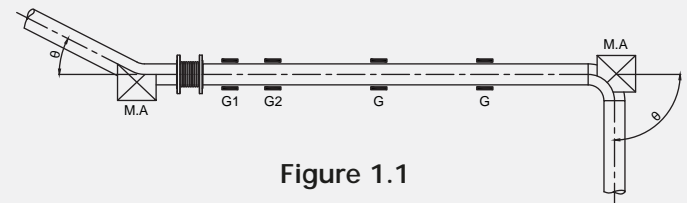
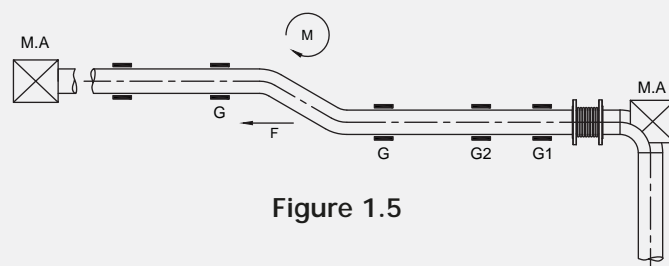
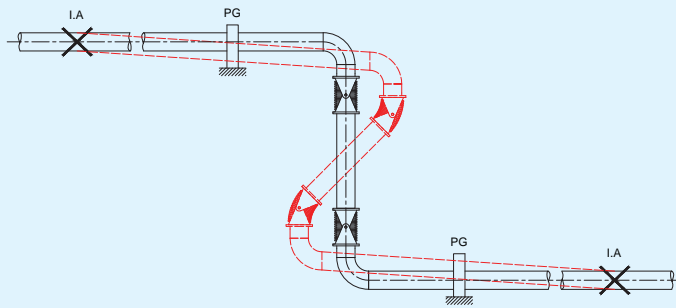

Figure 1.1
Figure 1.5
Figure 1.6
Figure 1.1 typifies good practise in the use of a single Expansion Joint to absorb axial pipe line expansion. Note the use of one Expansion Joint between two main anchors (M.A), the nearness of the Expansion Joint to an anchor, the closeness of the first alignment guide (G1), the spacing between the first alignment guide and the second alignment guide (G2), and the spacing of intermediate guides (G) along the balance of the line. See Figure 1.6
Figure 1.5 shows the application of a single Expansion Joint to a pipe line containing an offset. It should be noted that applications of this type are not usually recommended and will perform satisfactorily only within certain limits. As in Figure 1.1, the line is provide with main anchors at each end to absorb the pressure, movement loading, and guide friction. Where the line contains an offset, this load must first be transmitted through the offset leg, resulting in a moment on the piping. Where the line size is small, the offset appreciable, or where the pressure and movement forces are relatively high, this configuration may result in over-stressing, or distortion of the piping and guides.
Figure 1.6 illustrates the use of a two-hinge system to absorb the major thermal expansions in a single-plane "Z" bend. Since the pressure thrust is absorbed by the hinges on the Expansion Joints, only intermediate anchors are required at each end of the piping system.